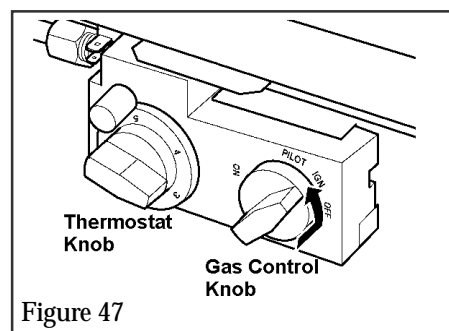

Figure 47
(See figure 47)
- a) By rotating the thermostat knob next to the gas control knob (See fig. 47).